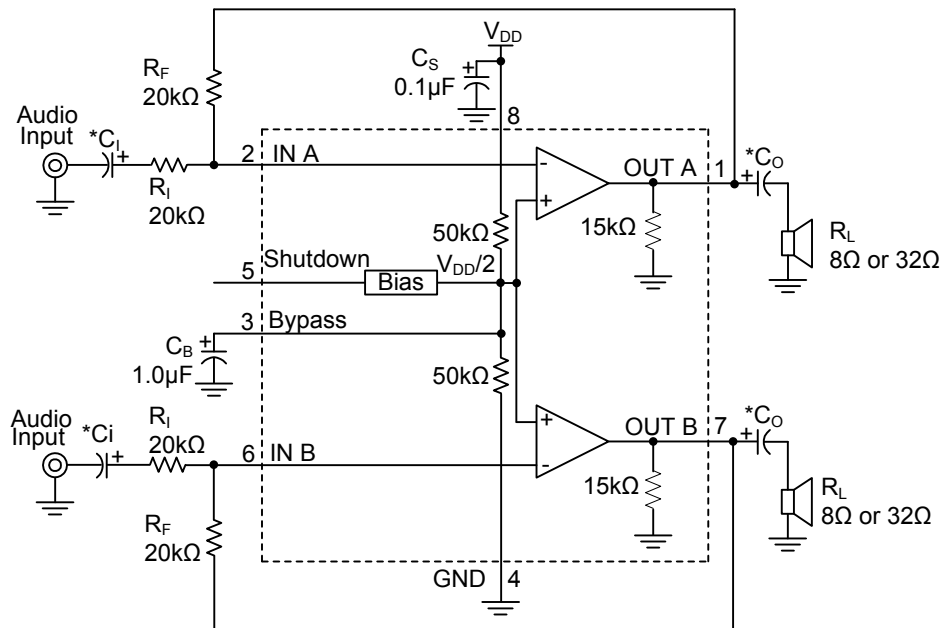

Fig. 1 Typical Audio Amplifier Application Circuit
■ EXTERNAL COMPONENTS DESCRIPTION (Fig. 1)